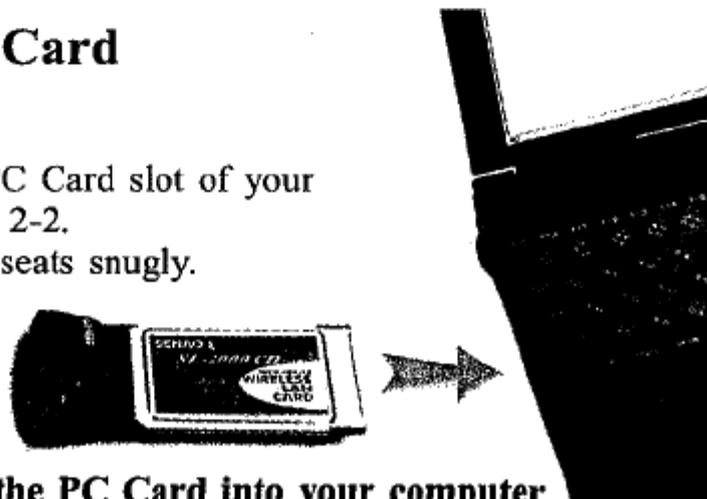

Figure 2-2 Insert the PC Card into your computer
2. Insert the PC Card into the PC Card slot of your computer as shown in Figure 2-2.